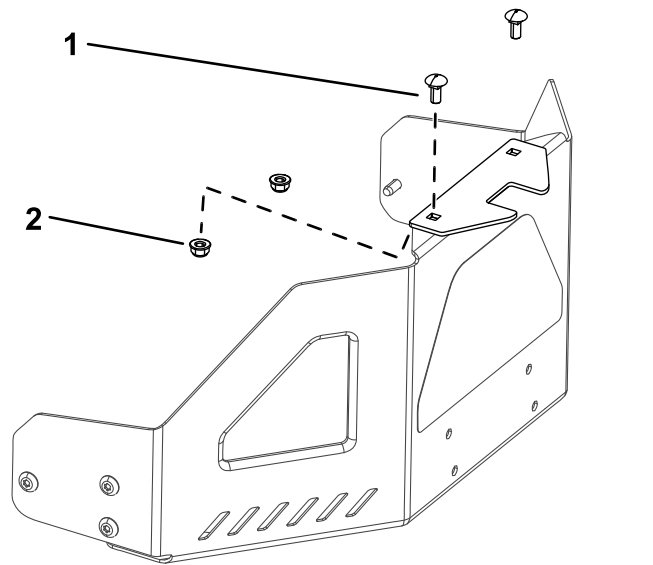

Figure 9
1. Install the stabilizer bracket to the engine guard using 2 carriage bolts (5/16 x 3/4 inch) and 2 locknuts (5/16 inch) (Figure 9).